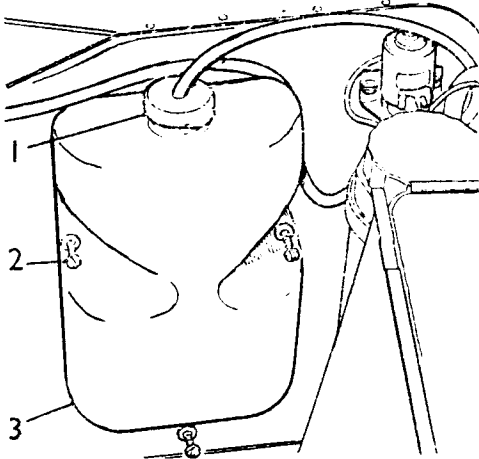

Fig V3.1
- (1) Refer to Fig V3.1. Remove the reservoir filler cap (1) complete with suction tube and filter.
- (2) Remove the three screws, washers and nuts (2) securing the reservoir to the wing valance.
- (3) Remove the reservoir (3).